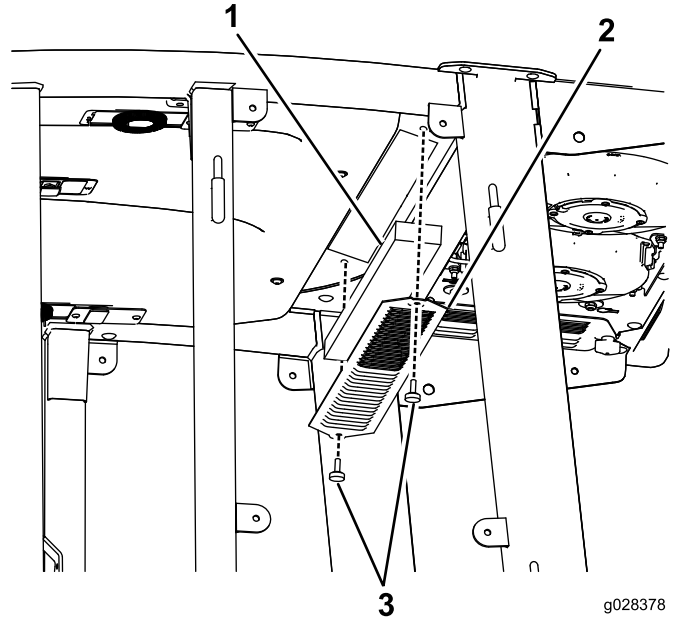
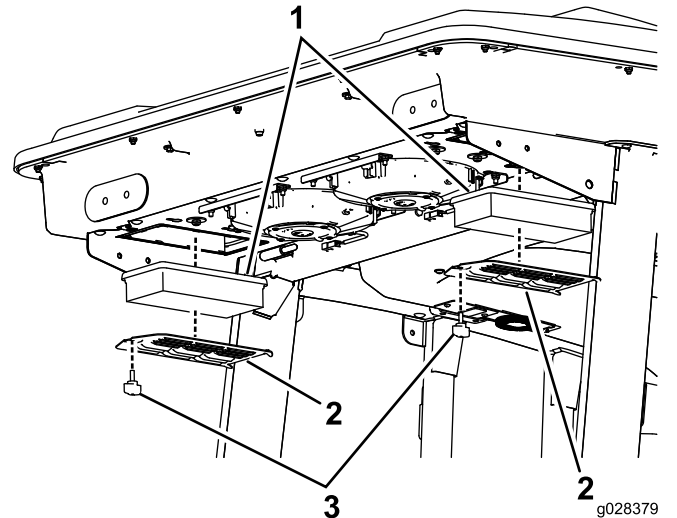
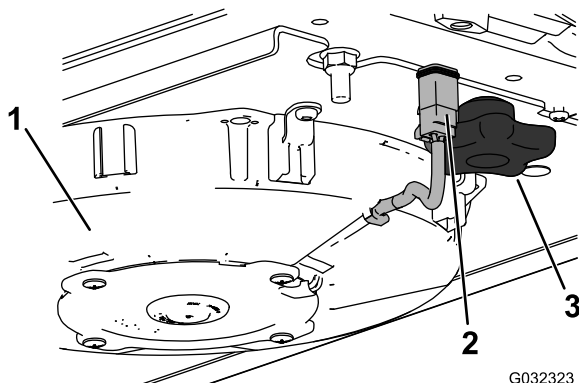
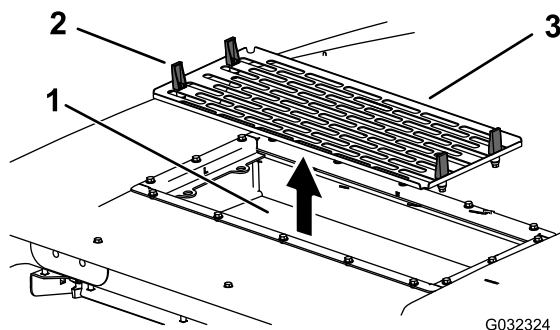

Figure 89
Figure 90
Figure 91
Figure 92
1. Remove the screws and grates from both the in-cab and rear cab air filters (Figure 89 and Figure 90).
5. Remove the air filters (see Figure 90).
7. Install the air filters, screen, and fan assembly (Figure 90, Figure 91, and Figure 92).
8. Connect the wire for each fan (Figure 91).